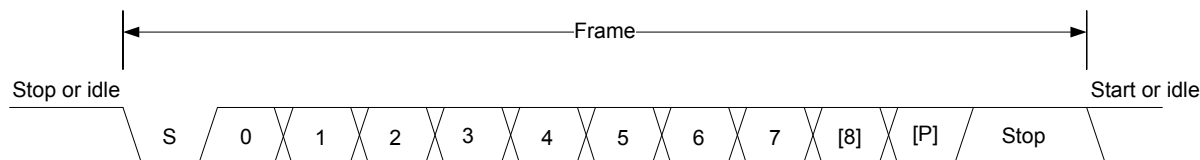

Figure 20.2. LEUART Asynchronous Frame Format
The frame format used by the LEUART consists of a set of data bits in addition to bits for synchronization and optionally a parity bit for error checking. A frame starts with one start-bit (S), where the line is driven low for one bit-period. This signals the start of a frame, and is used for synchronization. Following the start bit are 8 or 9 data bits and an optional parity bit. The data is transmitted with the least significant bit first. Finally, a number of stop-bits, where the line is driven high, end the frame. The frame format is shown in Figure 20.2 LEUART Asynchronous Frame Format on page 655.